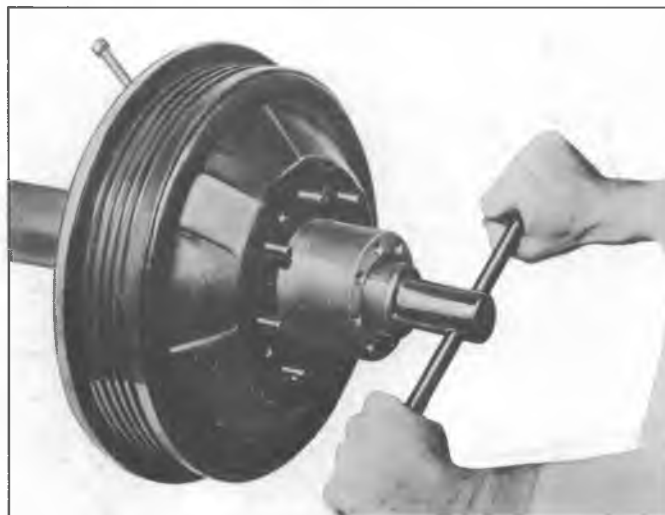

Fig. 21—Bearing Adjustment Nut Removal (Typical)
2. Disengage tang of nut lock from slot or flat of locknut, then remove locknut from housing tube, using J-2222 tool (fig. 21).